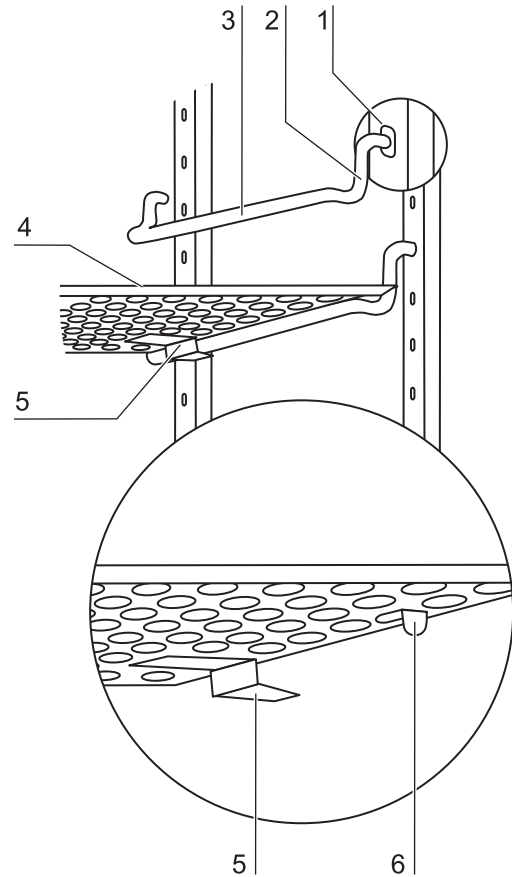

Fig.11: Shelf support/sheet insert installation
1. **Fig.11:** Insert the shelf supports [3] into the perforations [1] of the support rail with the bar facing down.